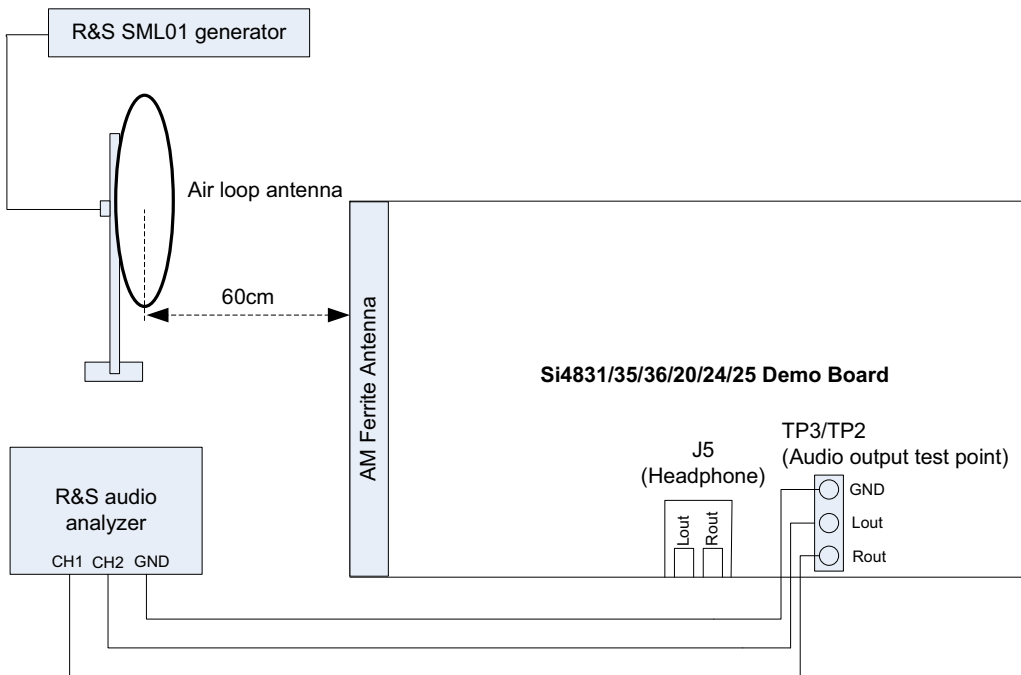

Figure 5. AM Tuner Radiation Test Setup
1. Connect test equipment as shown in Figure 5.